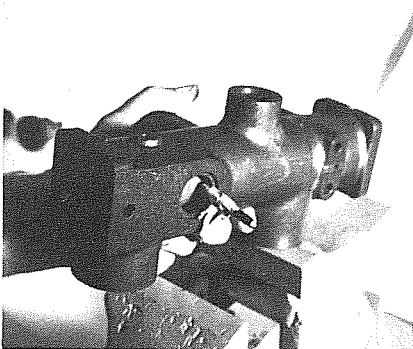

Figure 7-4, "D" drill serves as temporary stop for shuttle.
7.1.4 Follow procedure below to obtain the proper adjustment between the piston (6) and the shuttle (12) relative to the porting in the sleeve. With the shuttle (12) and connecting rod (8) assembled and fully seated in body (16), insert the shank end of a "D" drill (.2460) into the body port (to air motor) and in through the drilled holes in the sleeve (13). See Figure 7-4. The drill now acts as a temporary stop for the shuttle. Place